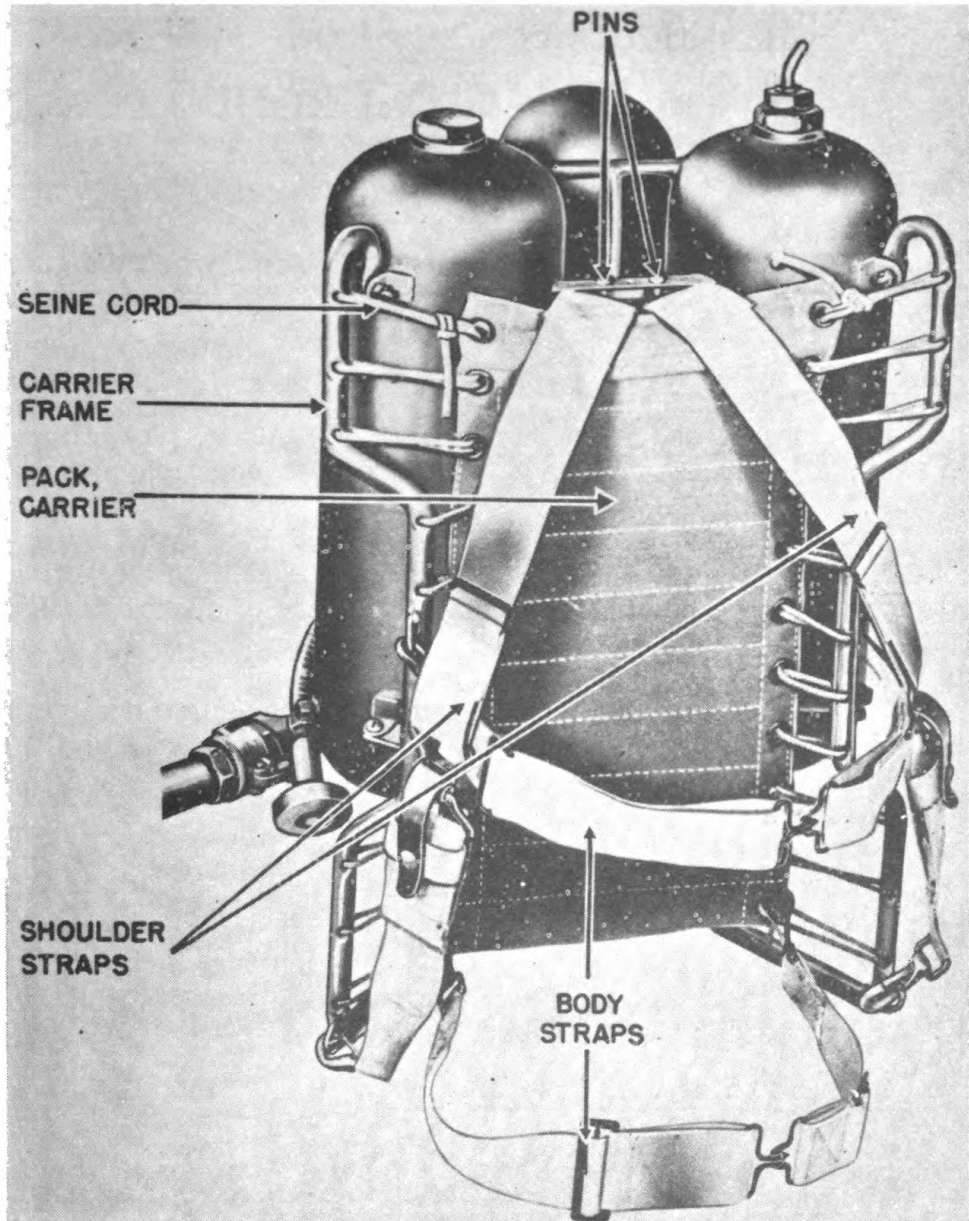

Fig 46. Carrier assembled on tank group.
a. Description and functioning. (Fig 46) The tank group is securely carried on the firer's back and chest by the carrier, which includes the metal carrier frame, the canvas carrier pack, webbing straps, and cord, all of which are parts of the tank group.
(1) Carrier frame. This lightweight, tubular-metal frame is bolted to two pairs of brackets (upper and lower) on the fuel tanks. It is also bolted to the hose connector by the frame clamp, which helps support the connector. The frame is pierced by two parallel series of holes, through which the cord (lashing) of the carrier is laced.
(2) Carrier pack. This is a sheet of heavy canvas, reinforced on the tank side with strips of webbing. The smooth side of the
(2) To remove body straps, unsnap ends and lift out of holes. To remove shoulder straps, unsnap lower ends and remove from holes. Pull out cotter pins, then pins, from upper ends of shoulder straps, and lift out straps.
(3) To remove carrier pack, unknot and unlace cord.
c. Installation of carrier. (1) To install carrier frame (or a complete carrier) place frame in position adjacent to fuel tanks (Fig 46), insert bolts in holes, place lock washers and nuts on bolts, and tighten with screw driver and wrench. Replace frame clamp on fuel connector and frame. Insert bolt in holes, place lock washer and nut on bolt. Tighten with screw driver and wrench.
(2) If carrier pack has been removed, use cord to relash. Lace tight and use slip-proof knots. (Fig 46)
(3) To install straps, snap ends of body straps and lower ends of shoulder straps into positions shown in Figure 46. Place upper ends (steel loops) of shoulder straps in steel support between fuel tanks. Insert two pins through any two of the holes in the support and through the shoulder strap loops. Insert cotter pins in holes in pins and spread cotter pins to lock pins in place.